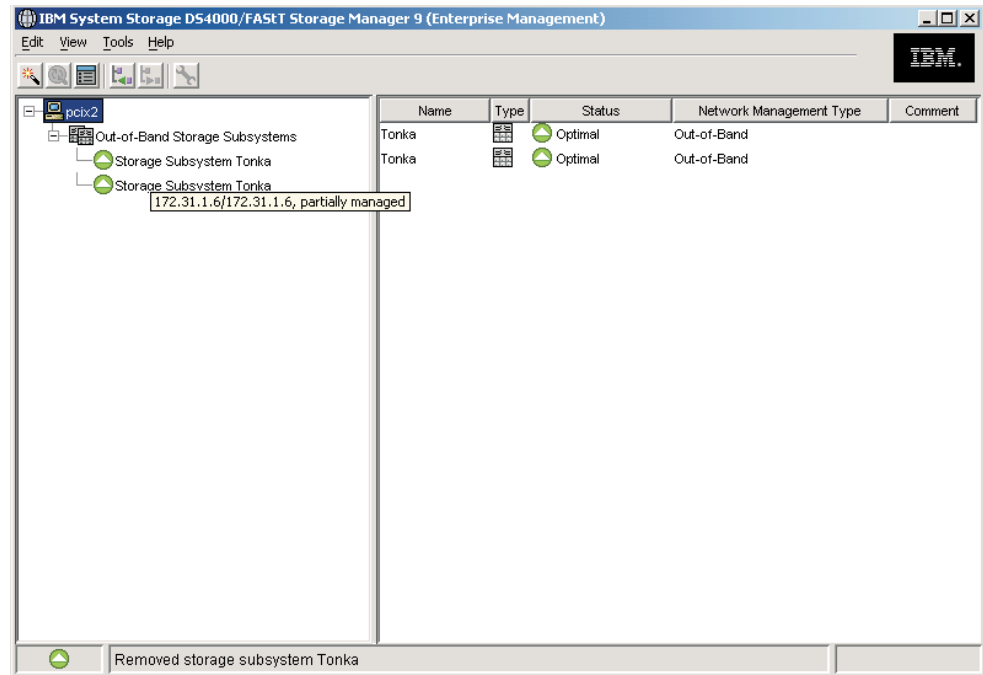

Figure 62. Dual entries appear in the Directly-Managed Storage Subsystem tree
- If controller A is added as a separate entry in the Enterprise Management window as shown in Figure 62, perform the following steps: